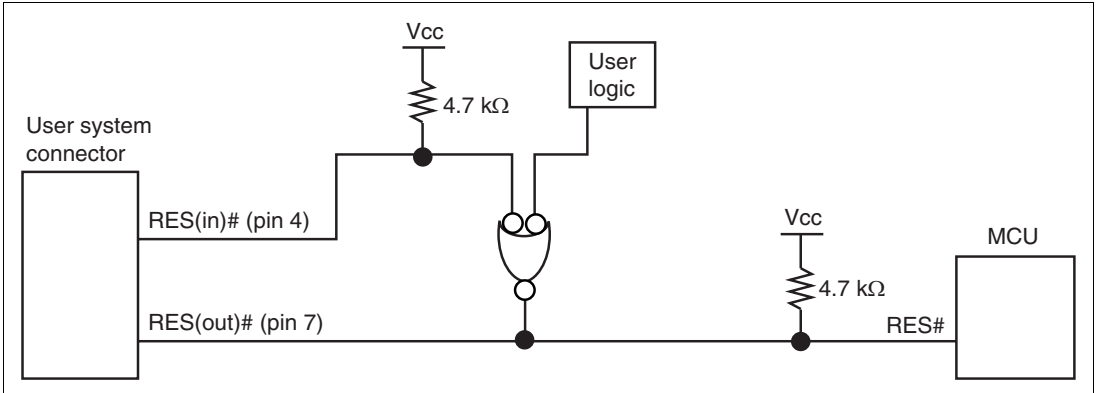

Figure 1.6 Connection of the RES# Pin
- RES(in)# of pin 4 of the user system connector is a signal line in which the emulator outputs signals to the MCU. RES(in)# of pin 4 and the user system reset circuit must be connected to the MCU, as shown in figure 1.6. RES(out)# of pin 7 of the user system connector is a signal line in which the emulator monitors the RES# signal of the MCU. The RES# must be pulled up before it is connected to pin 7 of the user system connector.